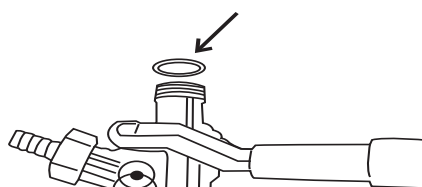

Figure 8
- Pull tapping handle out and press downward until it locks into position. **(See Figure 8)** The keg is now tapped.